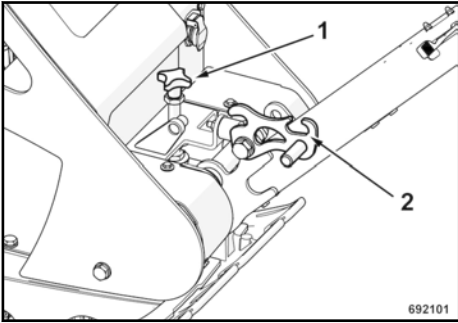

Fig. 13
Pull the locking pawl lever (2)  Fig. 13 and lower the steering rod, so that it can swing freely.